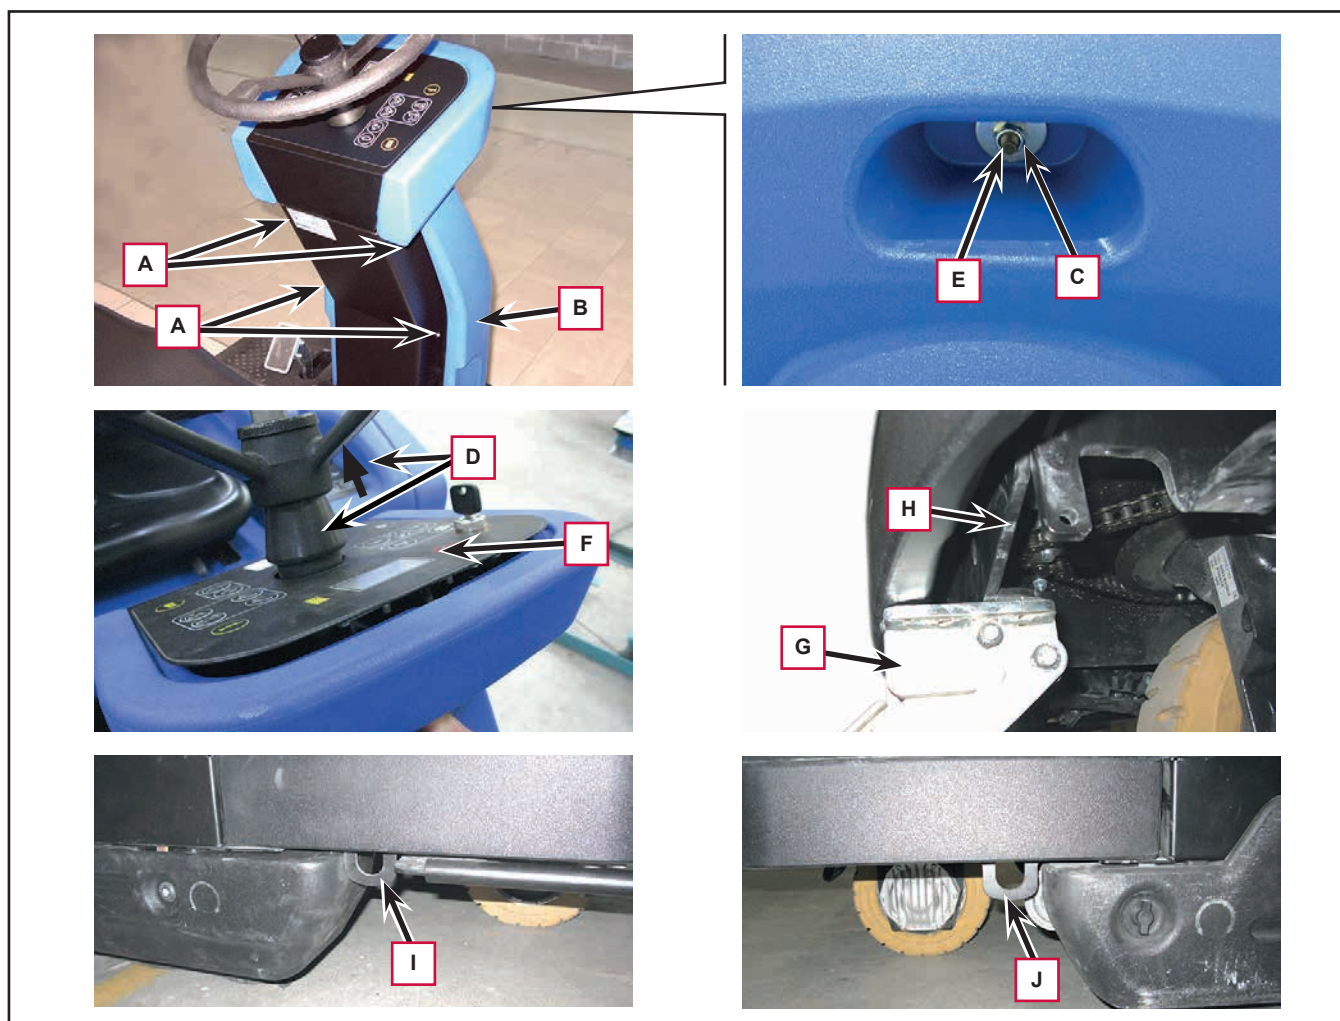

Figure 5
3. Unscrew the four screws (A, Figure 5) fastening the fairing (B).
4. Unscrew the nut (C) on the front.
5. Slide the sleeve (D) until it is flush on the steering wheel.
6. Press the stud (E), sliding it upwards (causing the Main Control Board (F) to lift slightly, then remove the fairing (B) by disengaging it from its seat and the stud (E).
7. Position a suitable lifting device (G) at the centre of the front section of the machine, on chassis bracket (H), then raise the front of the machine by a few centimeters until the driving wheel can turn without brushing the ground.
8. For safety purposes, to prevent accidental lowering of the machine, apply two suitable spacers under the right (I) and left (J) side brackets.